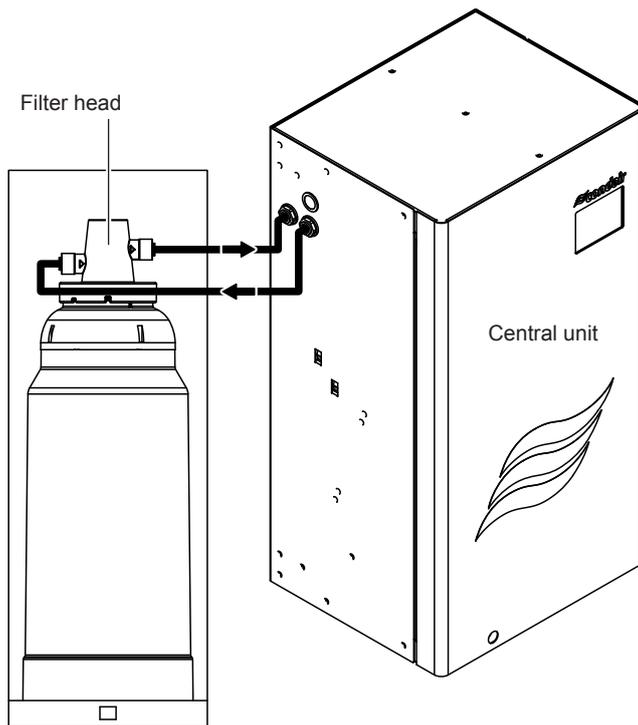
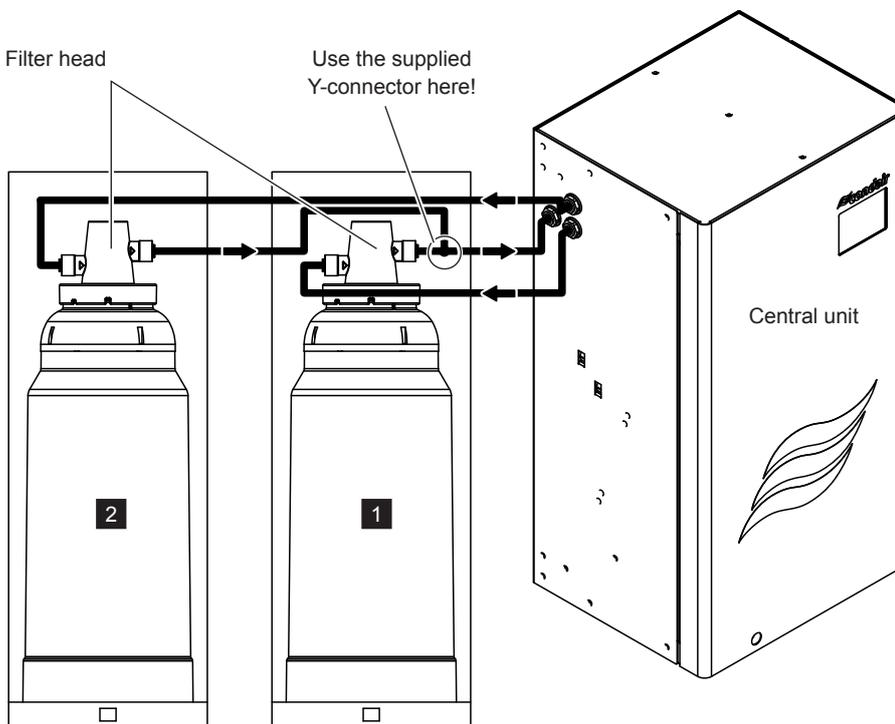

Fig. 38: Connection diagram with one water filter
Fig. 39: Connection diagram with two water filters
8. Connect the water hoses between the filter head and the central unit according to Fig. 38 or Fig. 39.